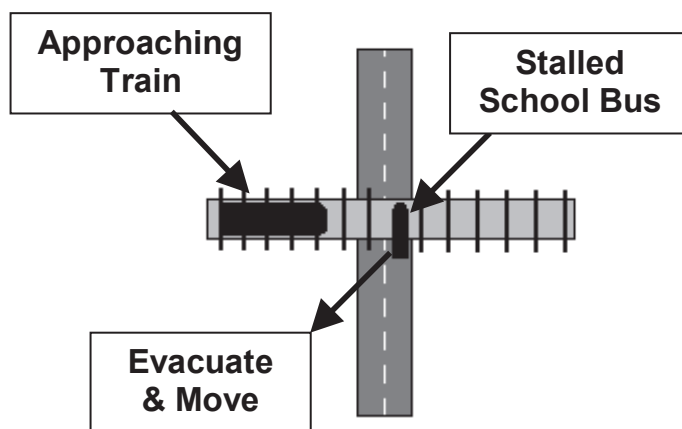

Figure 7-7. Stalled School Bus on Railroad Track.
- Move away from the tracks at an angle, in the direction of the approaching train, to avoid flying debris in the event of a collision (see Figure 7-7).